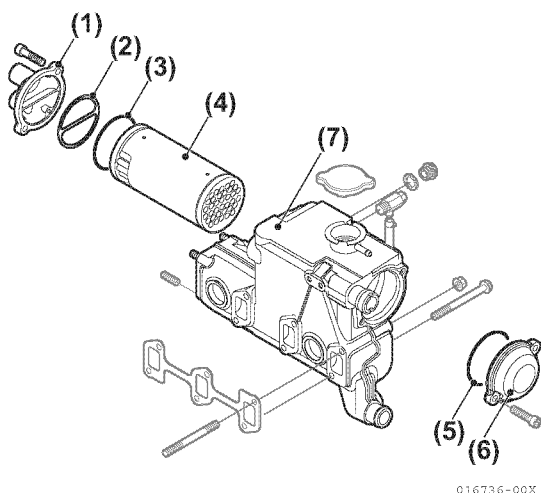
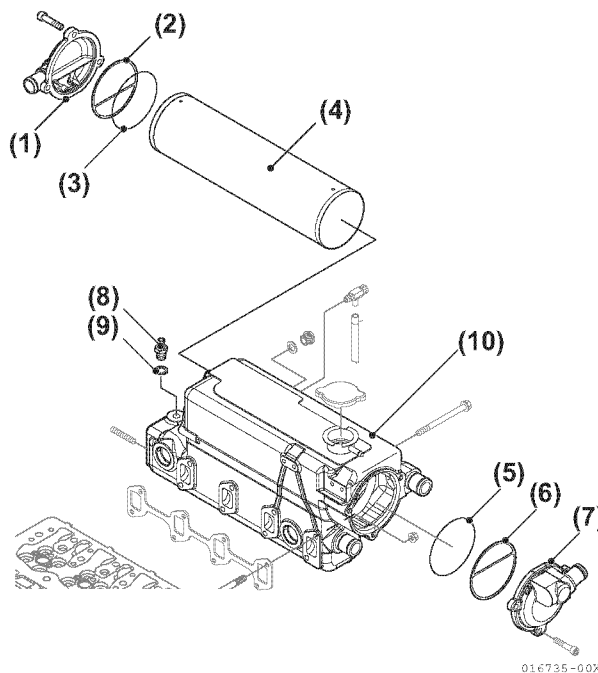

Figure 7-26
Figure 7-27
2. Remove outlet cover (**Figure 7-26, (1)**), (**Figure 7-27, (1)**) and gasket (**Figure 7-26, (2)**), (**Figure 7-27, (2)**).
3. Remove inlet cover (**Figure 7-26, (6)**) and (**Figure 7-27, (7)**) and gasket (**Figure 7-26, (5)**) and (**Figure 7-27, (6)**).
4. Pull core from housing (**Figure 7-26, (4)**) and (**Figure 7-27, (4)**).
5. Remove O-rings (**Figure 7-26, (3), (5)**), (**Figure 7-27, (3), (5)**).
6. Remove plug (**Figure 7-27, (8)**) and gasket (**Figure 7-27, (7)**). *NOTICE: NEVER use caustic soda be used to clean the components. Use paraffin-based engine detergent to clean the cooler element. Thoroughly flush and rinse all components.*
8. Install new O-ring (**Figure 7-26, (3),(5)**), (**Figure 7-27, (3),(5)**) on cooler core.
9. Install cooler core, gasket and inlet cover (**Figure 7-26, (6)**), (**Figure 7-27, (6), (7)**).
10. Install O-ring (**Figure 7-26, (3)**), (**Figure 7-27, (3)**) between core and housing (**Figure 7-26, (5)**), (**Figure 7-27, (5)**).
11. Install gasket (**Figure 7-26, (2), (6)**) and outlet cover (**Figure 7-26, (1)**), (**Figure 7-27, (1)**).
12. Install new zinc anode (**Figure 7-27, (8)**) and washer (**Figure 7-27, (9)**). See *Drain and Fill Closed Cooling System* on page 7-13.